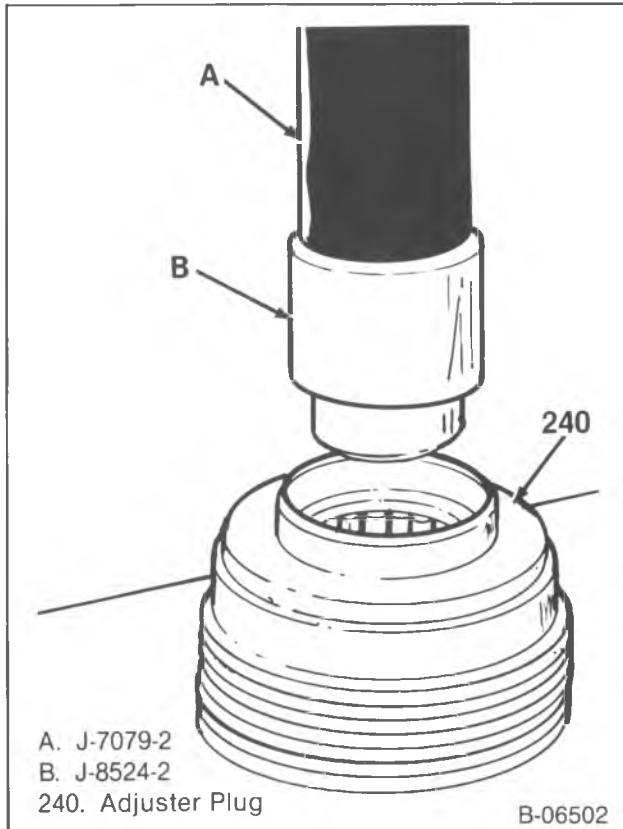
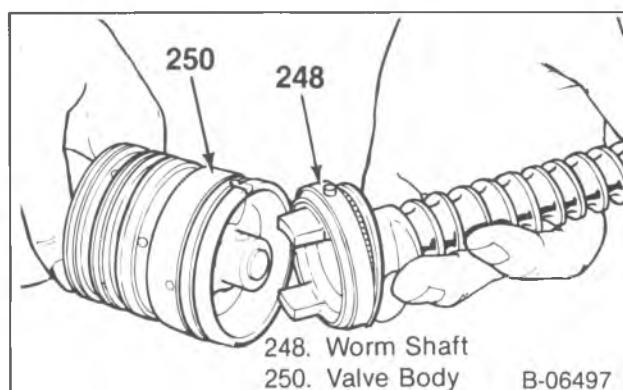
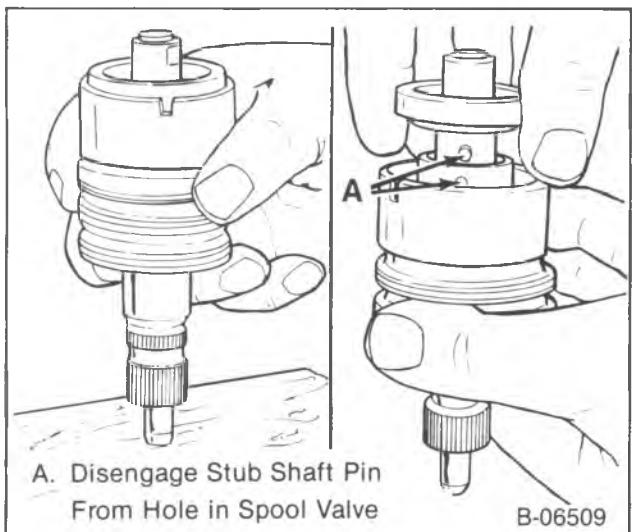
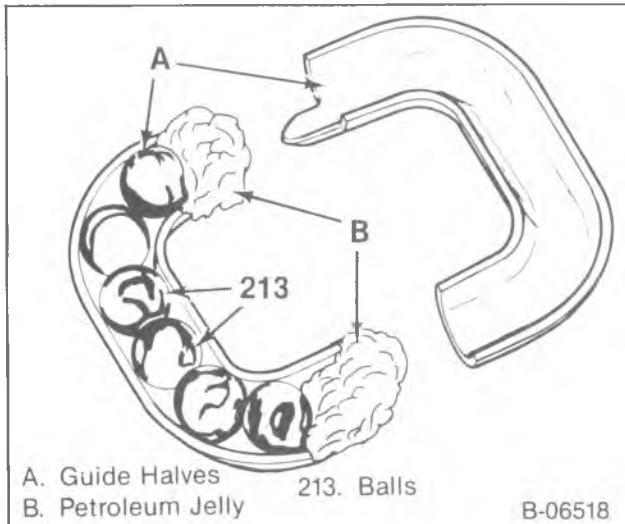

Figure 8—Removing the Needle Bearing
Figure 9—Separating the Wormshaft from the Valve Assembly
Figure 10—Removing or Installing the Stub Shaft Assembly
Figure 14—Retaining the Balls in the Ball Guide
- Seal (239) and needle bearing (241). Use J 8524-1 and J 7079-2 (figure 8).
- 13. Valve (250) and wormshaft (248) as an assembly, with both races (246) and bearing (247).
- Wormshaft (248) from valve assembly (figure 9).
- Races (246) and bearing (247) from the wormshaft (248).
- Seal (249).
- 14. Stub shaft (251) from valve body (250) (figure 10).
3. Balls (213), alternating by color, in the ball guide (212) (figure 14).
4. Ball guide (212), clamp (211) and screws (210) to the rack piston (214).
5. Stub shaft (251) into the valve body (250) (figure 10).
- Lubricate the stub shaft (251) with power steering fluid.
6. Valve spool (252) and seals (230, 231) into the valve body (250).
- Lubricate the valve spool (252) and seals (230, 231) with power steering fluid before assembling.
7. Valve body (250), seal (249), wormshaft (248), bearing races (246) and roller bearing (247).